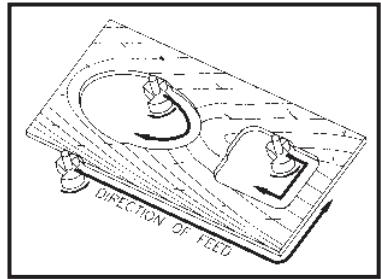

Fig. 13
9. Feed from left to right with a smooth steady motion (See Fig. 13).